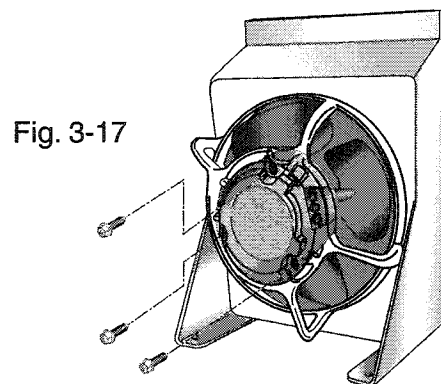

Fig. 3-17
2. Remove the three (3) hex-Head screws securing the fan motor to the fan bracket. (Fig. 3-17)